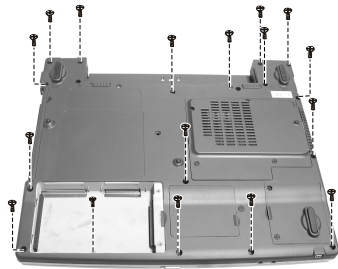

Figure 2-20 Remove seventeen screws
2. Remove the seventeen screws on the bottom of notebook. (Figure 2-20)